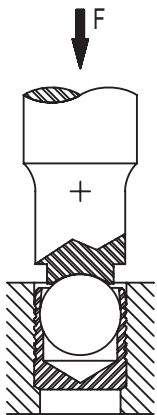

FIG. 2
- Press the ball into the sleeve so that the top of the ball is slightly below the top of the sleeve (see FIG. 2 and 3). Approximate values for **S** (stroke) and **X** are listed in the table below.